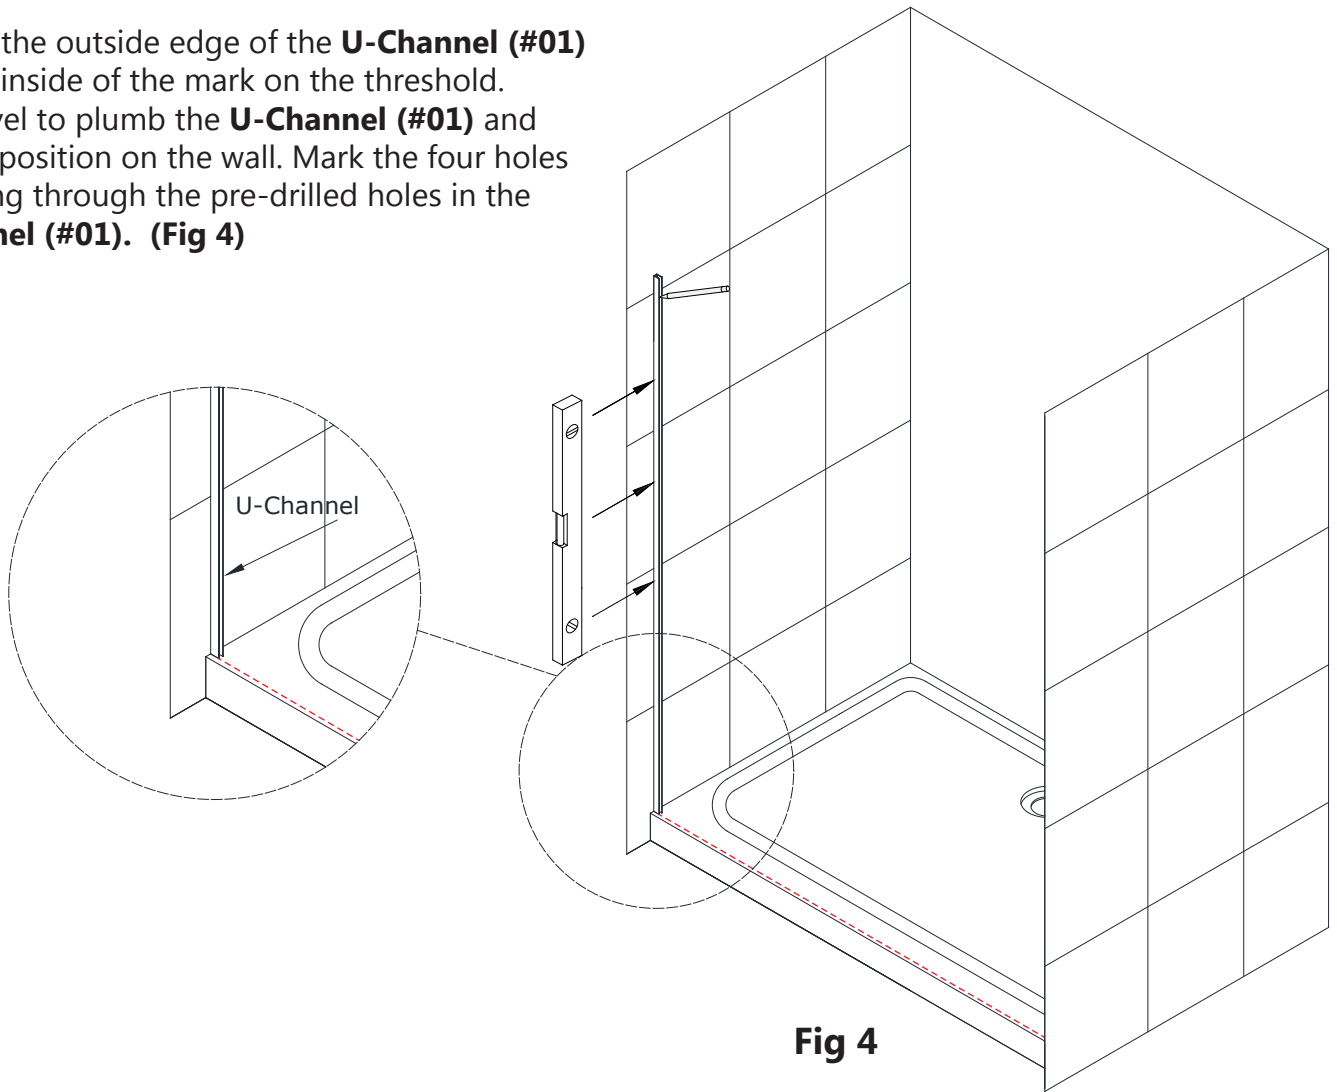

Fig 4
4. Align the outside edge of the **U-Channel (#01)** with the inside of the mark on the threshold. Use a level to plumb the **U-Channel (#01)** and mark its position on the wall. Mark the four holes for drilling through the pre-drilled holes in the **U-Channel (#01)**. **(Fig 4)**